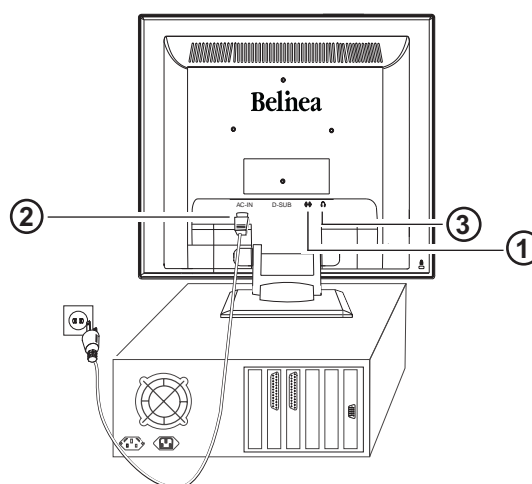

Figure 3. Connecting the monitor to the power source
If your computer is equipped with an audio output port, then connect one end of the sound cable to the audio input connector of the monitor (① in fig. 3) and the other end to the Line-Out connector of the computer.
Connect the separate power cable (② in fig. 3) to the monitor and a grounded outlet.
If you own headphones, you may connect them to the monitor's headphone connector (③ in fig. 3).